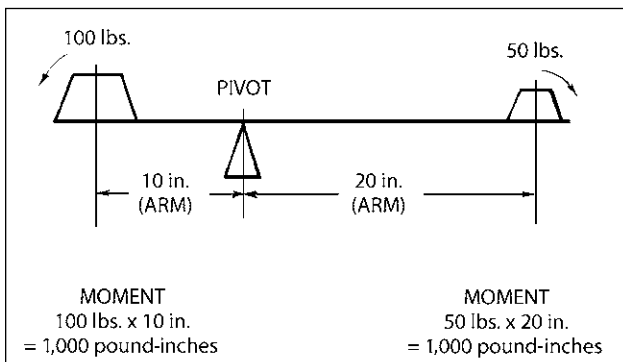

Figure 23-4. A system of two equal moments.
discussed in terms of pound-inches. Figure 23-4 shows how two equal moments acting in opposite directions can cancel each other so that equilibrium exists.
Figure 23-9. Center of gravity moment envelope and CG limits envelope for the sample airplane in Figure 23-7. The datum for that airplane is the front firewall. In this arrangement, weights rearward of that point have “positive” arms; weights forward would have “negative” arms, and this is basically the same idea as that shown in Figure 23-4. The total of the “negative” moments would be subtracted from the total of the “positive” moments to get some answer with the CG as (A), a positive moment acting “behind” the datum, or (B), the weight and CG in inches aft of the datum (firewall) as shown by the arrows in the two envelopes. To find the location of the CG, divide the total moment (55,600) by the total weight (1,600 pounds) as indicated by the arrow (B) to get a position of 34.75 inches aft of the datum.